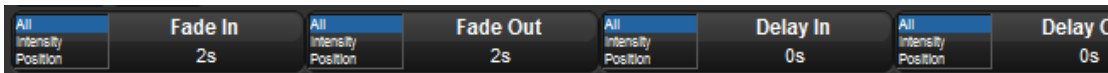

Figure 13.4. The Wheels Toolbar showing Timing
3. The Wheels Toolbar will show the available timing types (Fade In, Fade Out, Delay In and Delay Out) together with their current settings; see *Figure 13.4, "The Wheels Toolbar showing Timing"*.